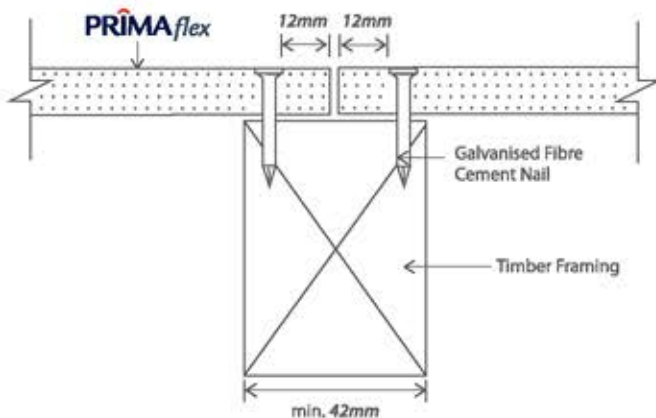
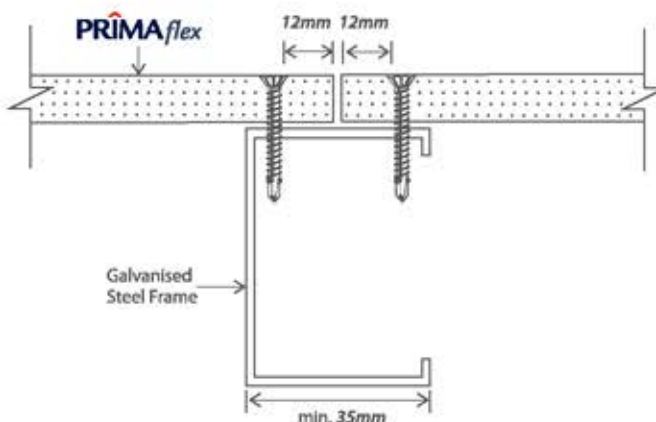

Figure 2.1: Fixing to Timber
Figure 2.2: Fixing to Steel (Butt Joint)
At sheet joint, single support framing system as shown in **Figure 2.1** and **Figure 2.2** requires a nominal face width (or flange for steel stud):-
1. The board edges may be joined closely to produce a neat butt joint as shown in Figure 2.2.